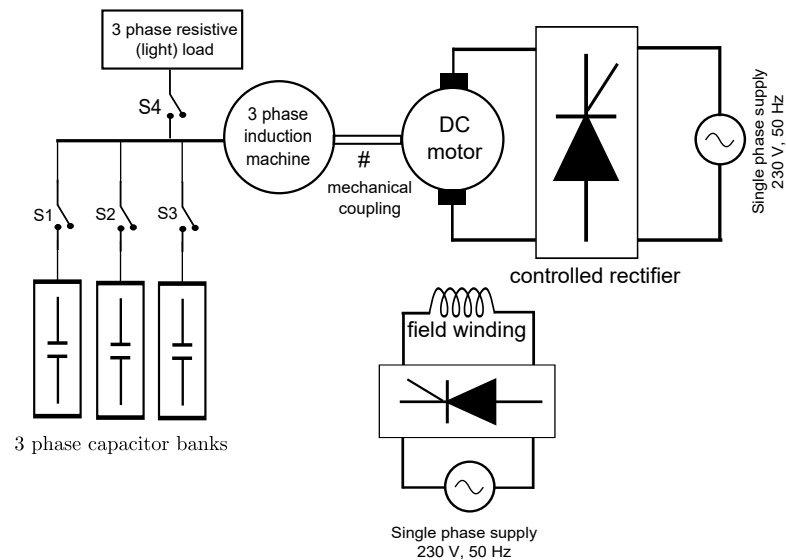

Figure 2: Independently operating (self excited) induction generator
1. Connect the circuit as shown in the Fig. 2.